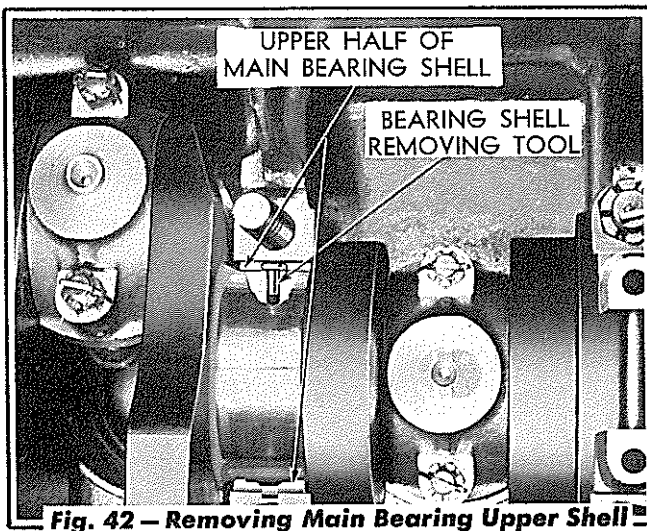

Fig. 42 — Removing Main Bearing Upper Shell
- a. Insert a $\frac{1}{4}$ " x 1" capscrew with a head $\frac{7}{16}$ " in diameter and $\frac{1}{16}$ " thick into the crankshaft main bearing oil hole, then revolve the crankshaft in the direction that will turn the head of the bolt against the end of the bearing shell that has no locking tang. Continue to turn the shaft until the shell has been pushed out of position, as shown in Fig. 42.